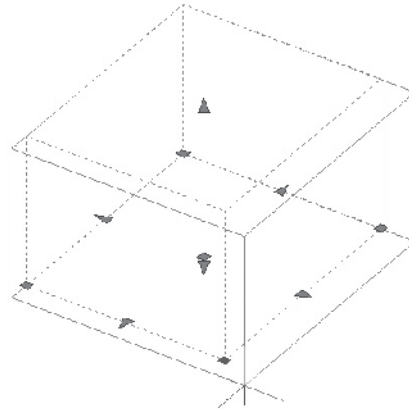

Fig. 45-5
7. Select the square grip at the front lower corner of the box and stretch the box outward, as shown in Fig. 45-5.